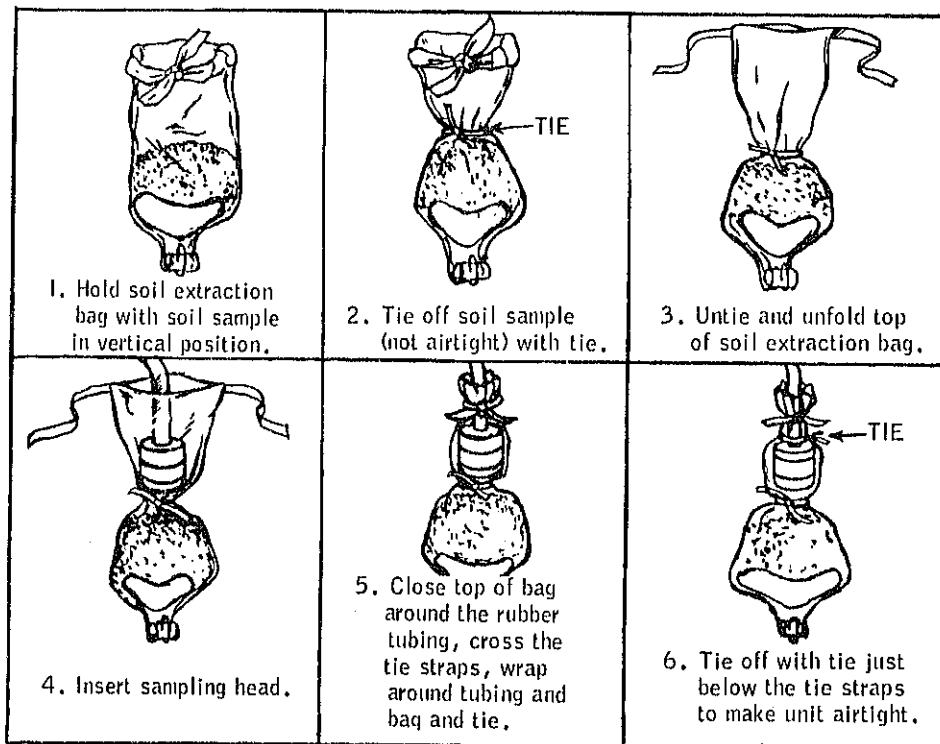

Figure 2-4 (U). Inserting air sampler in soil extraction bag containing soil sample (U).
- c. Insert the air sampler in the soil extraction bag as shown in figure 2-4.